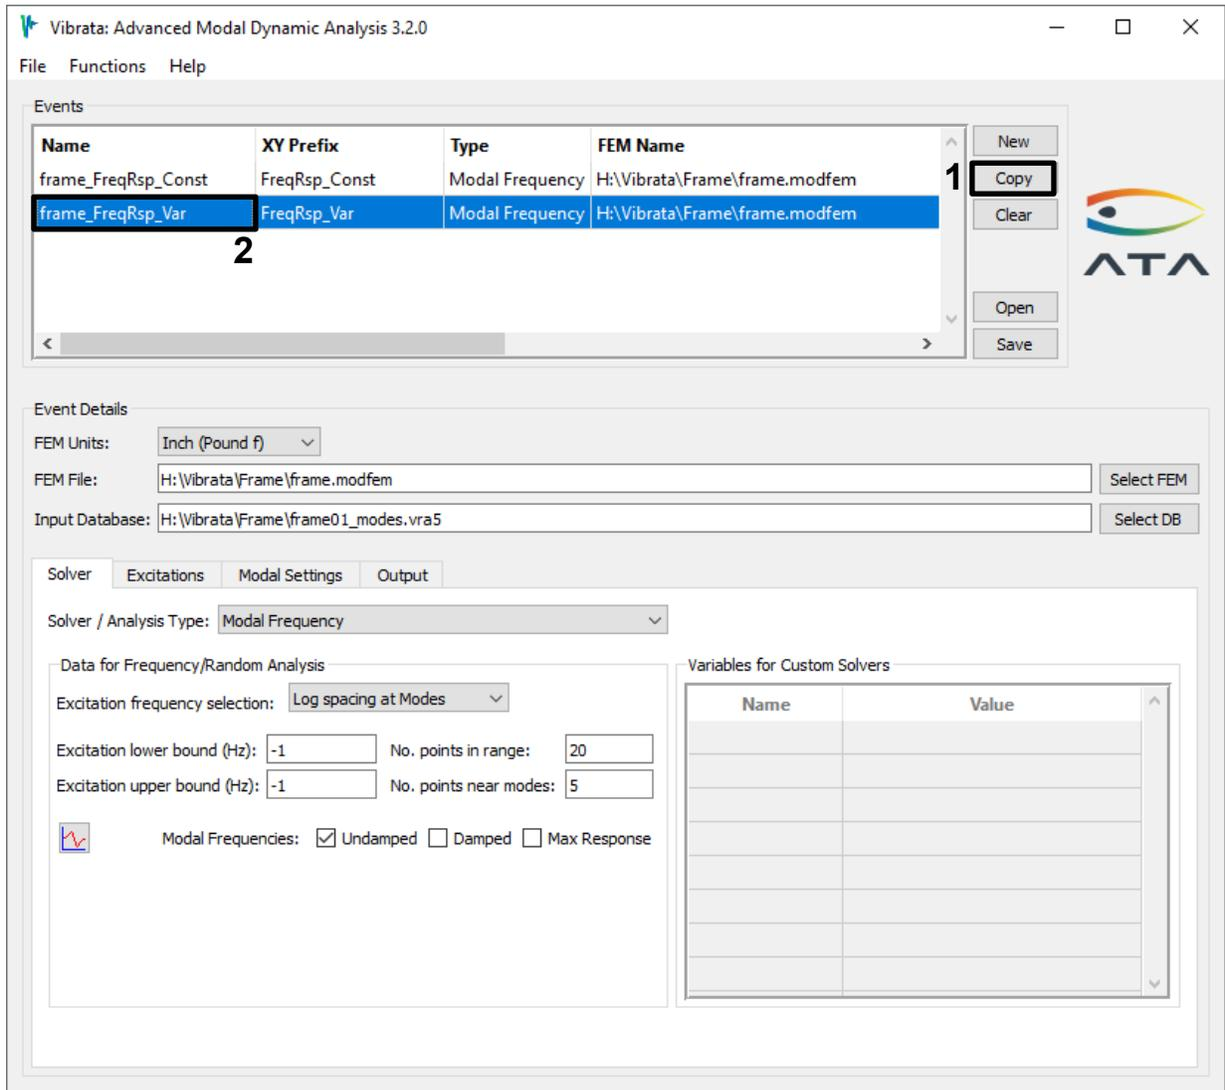

Figure 4-33. Use the **Copy** button to create a new event from an existing one.
- b. Rename the new event to “frame\_FreqRsp\_Var”. Note that its output requests are again in black text; these have not yet been solved (Figure 4-33).